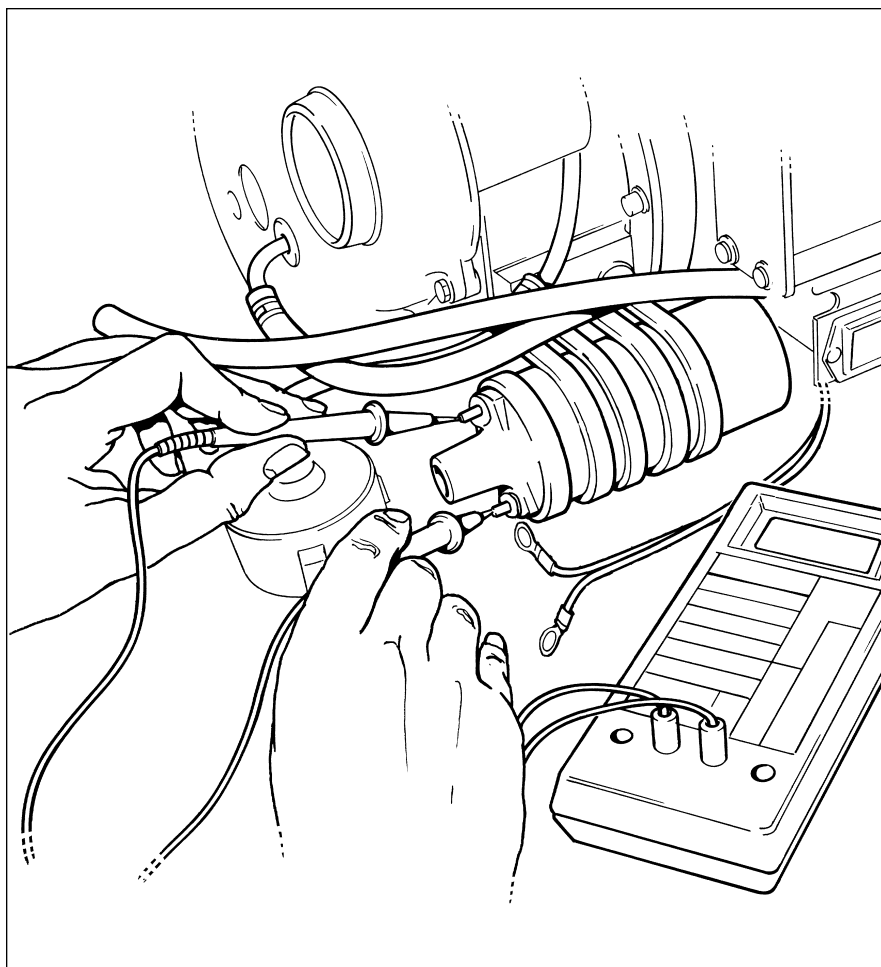

Figure 4-8 Ignition Coil Test
- a) Use a multimeter to measure the resistance across the positive and negative terminals. The resistance should be between 0.2 and 1 ohm. If the measurement is outside this range, replace the coil. (See *figure 4-8*)
- a) Use a multimeter to measure for an open or short circuit across the positive and negative terminals. (See figure 4-8)